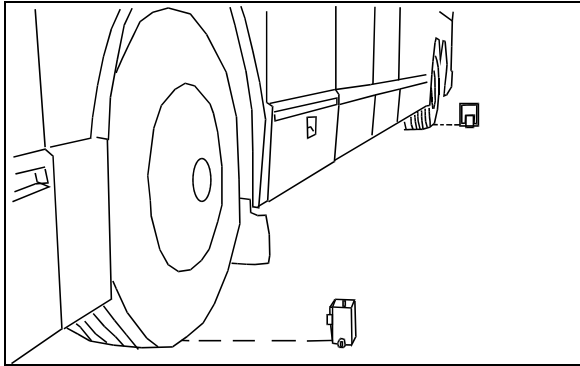

FIGURE 56: INSTALLING CALIBRATION FIXTURES 06497
7. Install a calibration fixture in the axis of front axle wheel and one in the axis of rear axle wheel (Fig. 56).